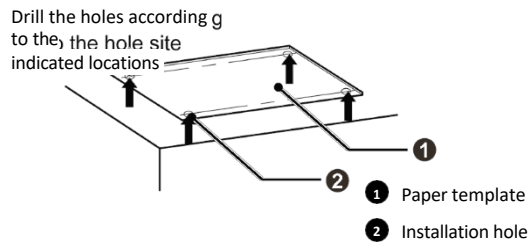
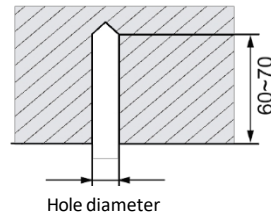

Fig. 4.1.2
Fig. 4.1.3
① Drill the bolt holes and install the bolts
- 1) Stick the reference template to the installation location; drill 4 holes according to the hole positions on the template as shown in Fig. 4.1.2; the hole diameter depends on the diameter of the expansion bolt, and the depth is 60 to 70 mm, as shown in Fig. 4.1.3.